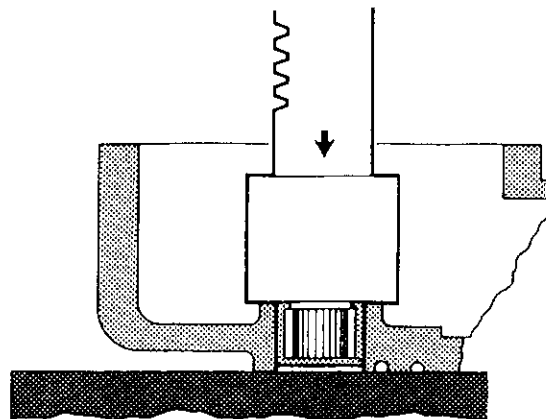

Figure 4.16
1. Press a new gear case bearing (7) into gear case (4) flush to .010" below surface of gear case and pack with Lithium base grease. See Figure 4.16.